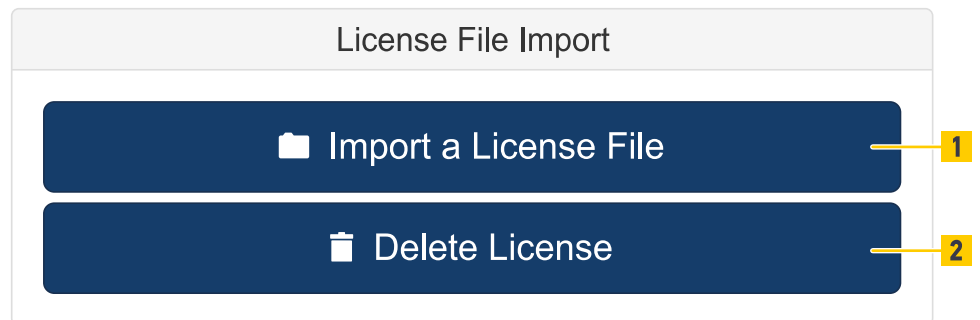

Fig. 146: License File Import
- To upload the file click Import a License File (Fig. 146 /1).
- To remove a license from the device click Delete License (Fig. 146 /2).